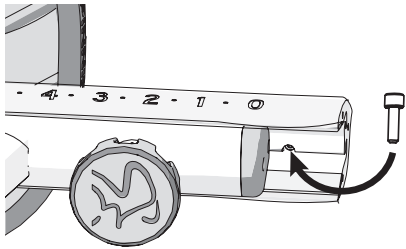

Figure 7
- 2. Insert one bolt ❸ into the underside of the seat slider and fully tighten it to set the travel limit (Figure 7).